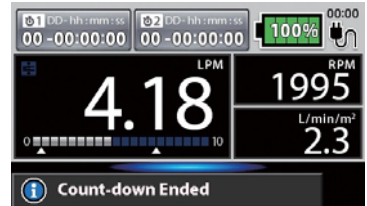

Figure 3-45
4. When the count down is finished, “Count-down Ended” is displayed on the message area with a sound. (Figure 3-45)